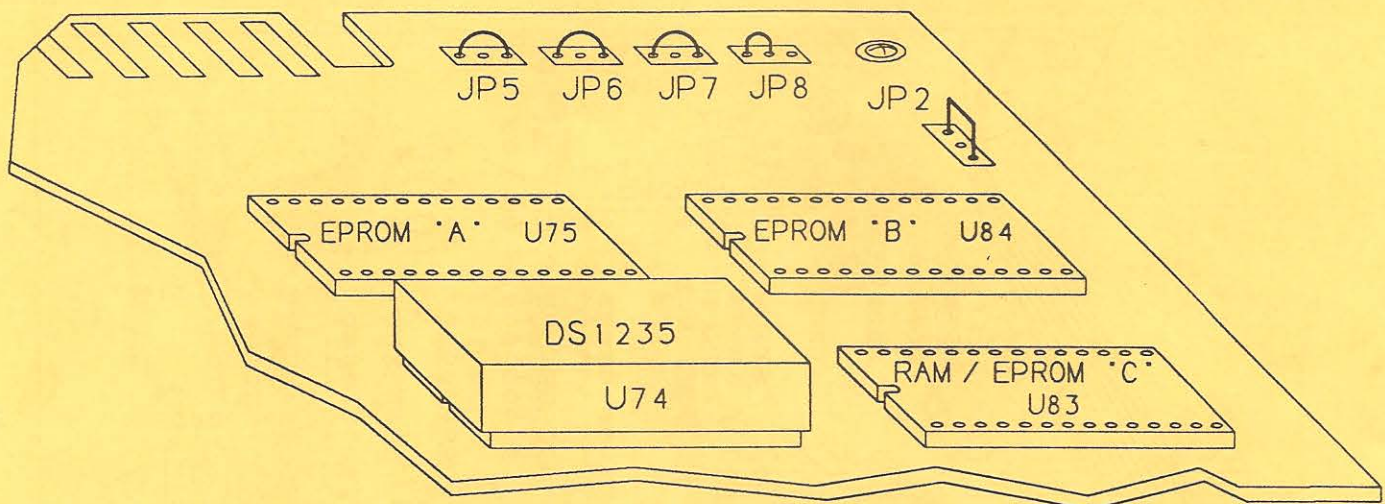

Figure 1. Location of EPROM's, RAM's and Jumpers
3. The Zeta-Three's memory components are all located at the front right corner of the main circuit board, just behind the CAPTURE key, as shown in Figure 1.
Figure 1 shows all five of these jumpers configured as they must be for the ZETA-THREE^{em} to operate correctly (or at all). Carefully compare the diagram with the jumpers on your board.
8. Install the supplied EPROM marked "A" in socket U75, located as shown in Figure 1.
9. Following the same precautions, install EPROM "B" in socket U84 (located front right, as in Figure 1).
Double check that the components are arranged as shown in Figure 1.